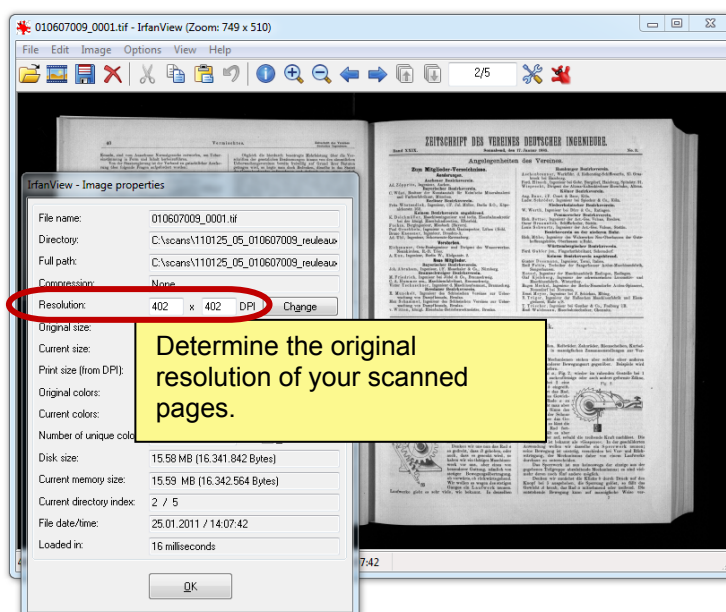

Figure 29 - Finding out the original resolution of a scanned image with picture viewer *IrfanView*
The resolution of the output file can be established at fixed resolutions such as 300 dpi, 400 dpi, 600 dpi or at a custom value. Please **keep the resolution at its original value** to avoid quality losses! (Please note: Increasing the resolution does not lead to better quality!) You can find out the resolution with a picture viewer like *IrfanView* (see figure 29). In *IrfanView* choose *Menu bar/Image/Information*
- **Find out** the original **resolution** with a tool like *IrfanView* (see figure 29)